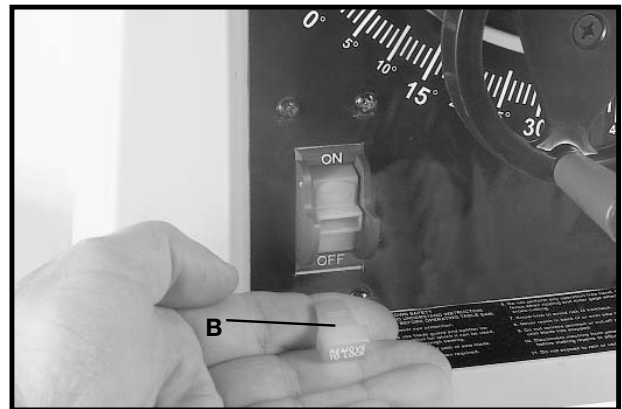

Fig. 30
**IMPORTANT:** When the tool is not in use, the switch should be locked in the “OFF” position to prevent unauthorized use. To lock the tool, grasp the switch toggle (B) and pull it out of the switch (Fig. 30). With the switch toggle (B) removed, the switch will not operate. However, should the switch toggle be removed while the saw is running, the machine can be turned “OFF,” but cannot be restarted without re-inserting the switch toggle (B).